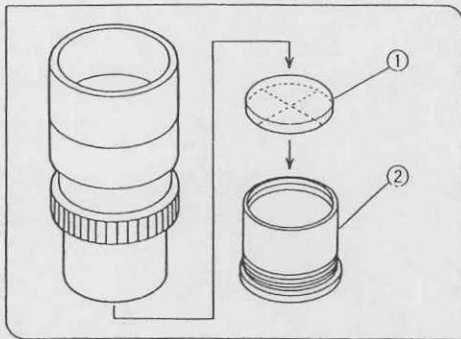

Fig. 48
4 Use of Eyepiece Micrometers (Fig. 48)
Following Fig. 48, unscrew the micrometer frame ② from the eyepiece, place a micrometer ① into the frame. Screw the micrometer frame into the eyepiece as it was before. (Please use $\phi 24 \times 1$ mm micrometers.)